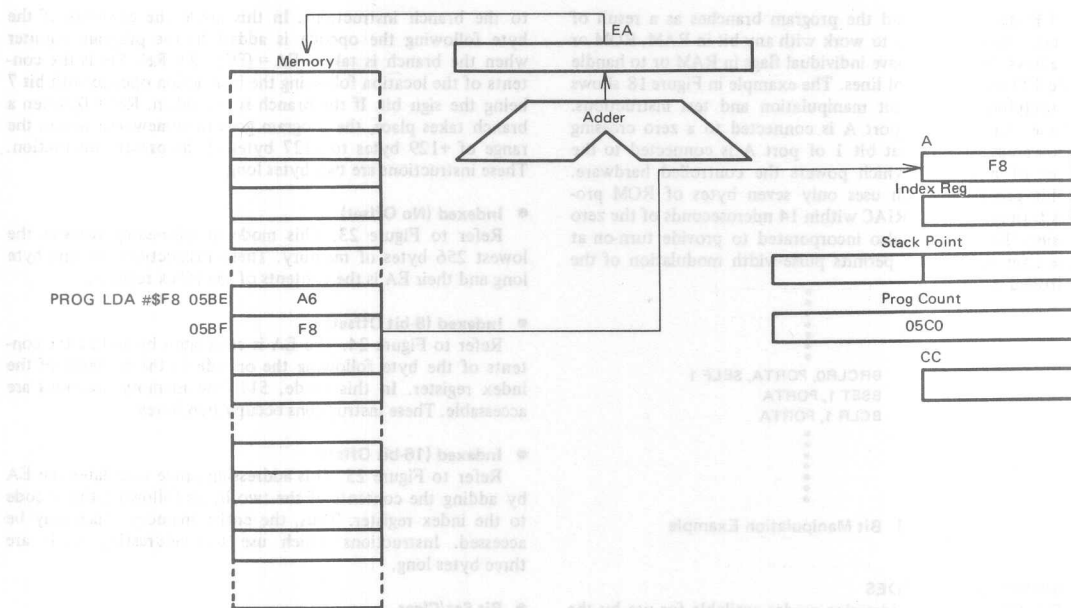

Figure 19 Immediate Addressing Example
Refer to Figure 19. The immediate addressing mode accesses constants which do not change during program execution. Such instructions are two bytes long. The effective address (EA) is the PC and the operand is fetched from the byte following the opcode.